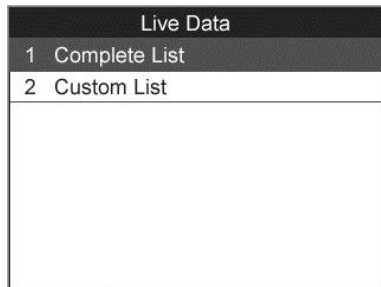

Figure 5.10
- 1) To view complete set of data, use **UP/DOWN** scroll button to select **Complete List** from **Live Data** menu and press the **OK** button (Figure 5.10).
- 1) To view customized PID data, use the **UP/DOWN** scroll button to select **Custom List** from **Live Data** menu and press the **OK** button (*Figure 5.10*).